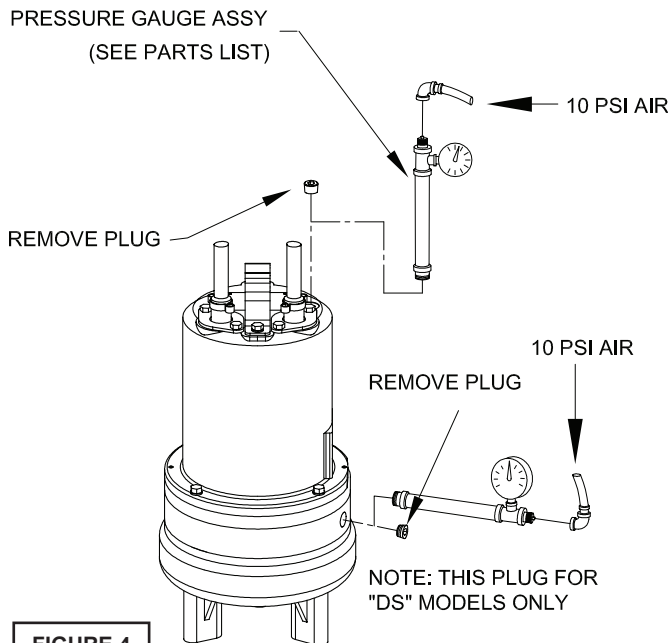

FIGURE 4
Pumps that have had the oil drained from the Motor Housing - Apply pipe sealant to pressure gauge assembly and tighten into pipe plug hole (See Figure 4). Pressurize motor housing to 10 P.S.I. Use soap solution around the
sealed areas and inspect joints for "air bubbles". If, after five minutes, the pressure is still holding constant, and no "bubbles" are observed, slowly bleed the pressure and remove the gauge assembly. Replace oil as described in section F-1.4. If the pressure does not hold, then the leak must be located and repaired. **Pumps that have NOT had the oil drained from the Motor Housing -** The pressure test may be done with the oil at its normal level. Remove pipe plug (39) from motor housing (6). Apply pipe sealant to pressure gauge assembly and tighten into hole (see Figure 4). Pressurize motor housing to 10 P.S.I. Use soap solution around the sealed areas above the oil level and inspect joints for "air bubbles". For sealed areas below the oil level, leaks will seep oil.